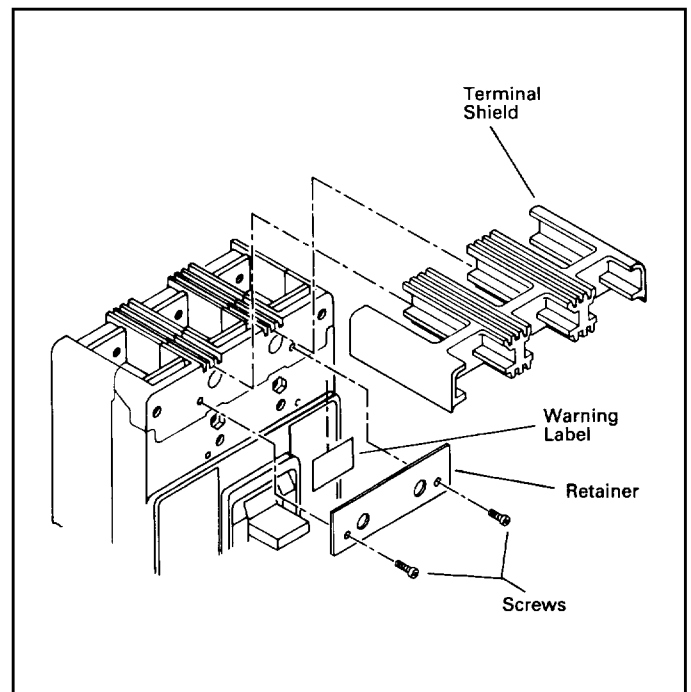

Fig. 2-4 Installation of Terminal Shields and Warning Label
- 2-10. When step-type terminals (Cat. No. TA603LD or TA401LD) are used, terminal shields (supplied with terminals) must be installed on the circuit breaker (Fig. 2-4) and secured using retainer and screws included with the terminal shield kit. Warning label supplied with the kit must be attached to the circuit breaker cover.